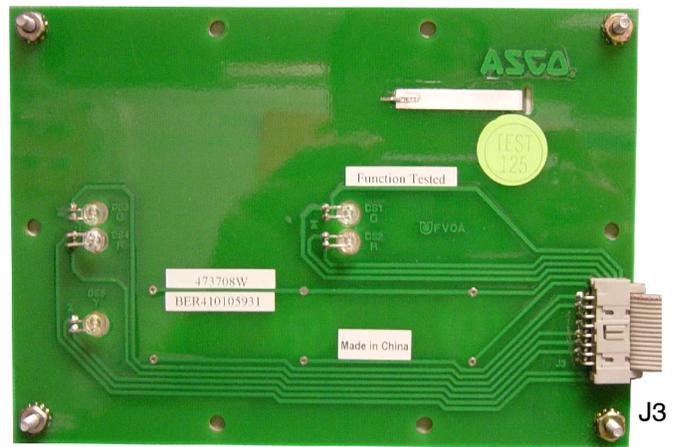

Figure 2. Series 300 ATS operator Interface board mounted on the enclosure door (back view).
Module Installation – Figures 2 & 3
1. With all power OFF, open the enclosure door. Locate the operator interface (membrane controls) mounted on the inside of the enclosure door. Use a 5/16” nutdriver to remove (counterclockwise) the four hex nuts from the corners of the operator interface. Do not remove the operator interface board (Figures 2 & 3).
3. Connect the new ribbon cable (coming from the Acc. 11BG module upper right side) to the operator interface (J3 lower right side) with the same orientation as the original cable that was moved. See Figures 2 & 4.